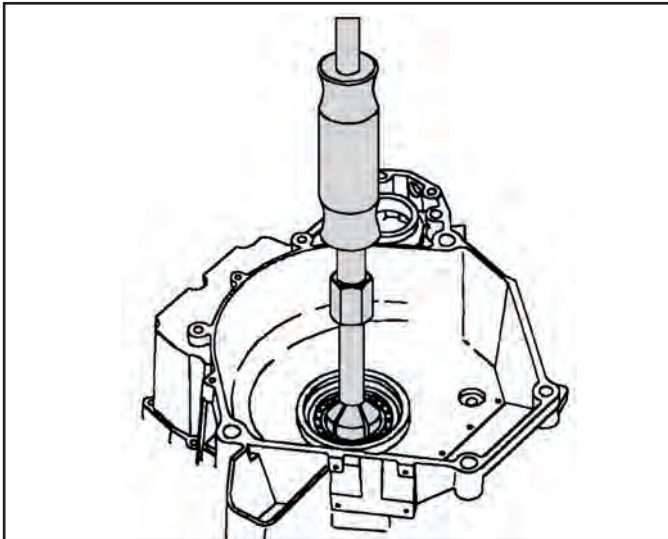

Figure 78
30. Using the same puller tool described in step 26, remove the converter bearing from the case as shown in Figure 78.